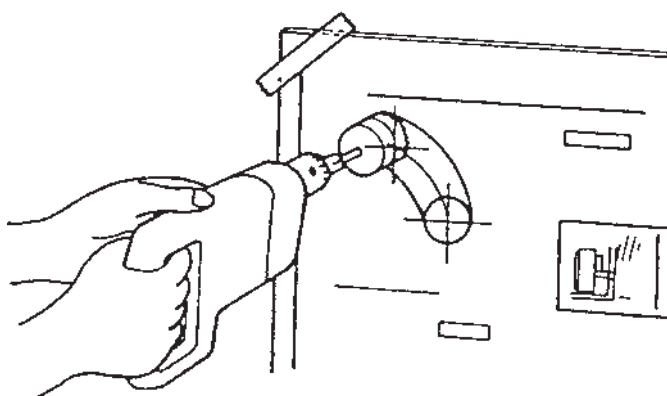

Fig. 5
2. Drill the hole for the exhaust pipe. Use a hole saw with a diameter of 70~80 mm (see Fig. 5). The opening on the interior side of the wall must be a little higher than the opening on the outside in order to create a slight gradient in the feed-through and exhaust pipe